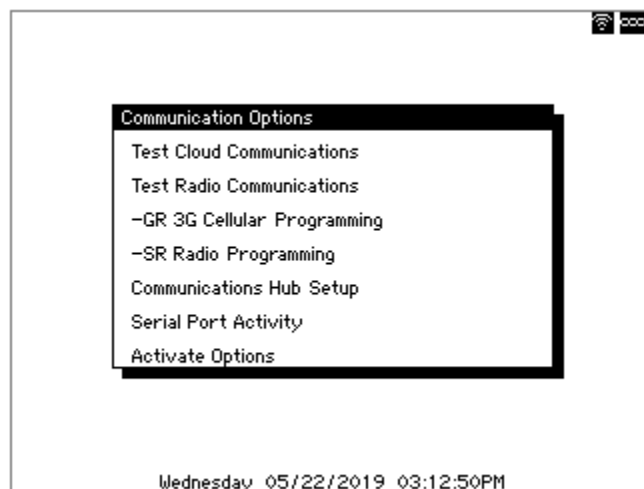

Figure 67: Communication Options Screen
The Communication Options menu varies based on the options installed on the controller (Figure 67). Besides the ability to test communications, it also includes the ability to program communication devices physically attached to the controller. Device programming is beyond the scope of this User's Guide, but Calsense's Customer Service team is available at (800) 572-8608 to help.